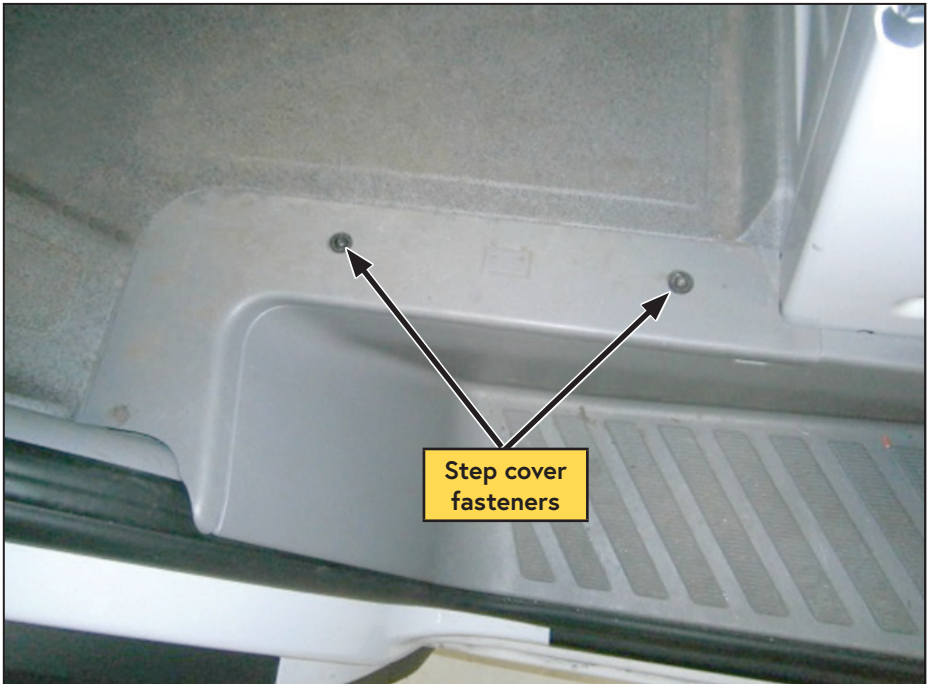

Figure 6 — Remove step cover and mat
- Remove the driver side step cover and floor mat (Figure 6).